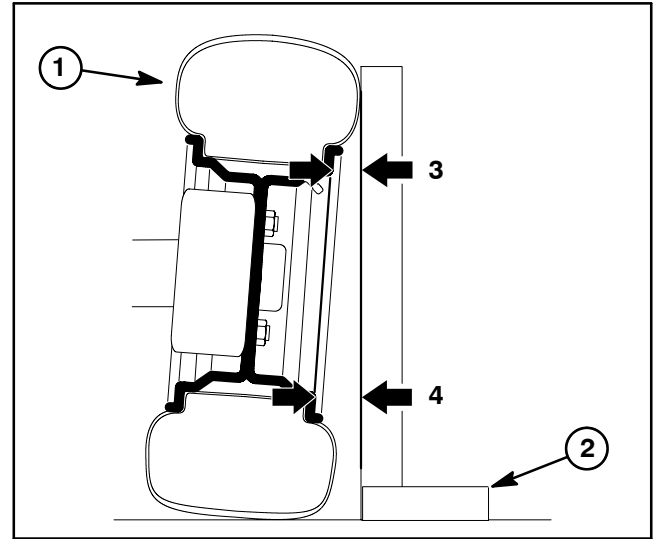
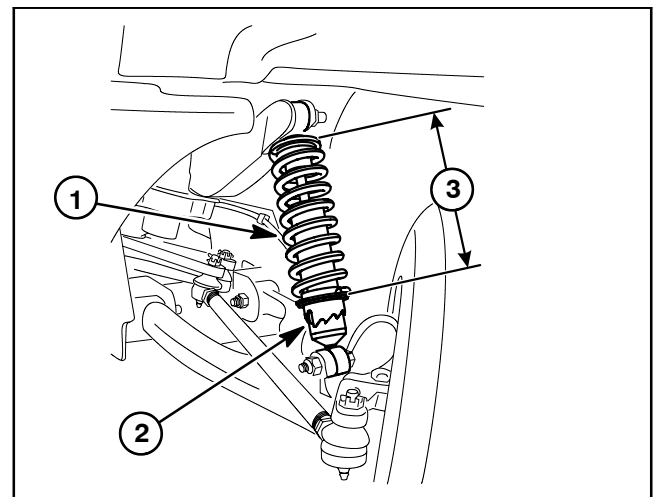

Figure 2.1
Figure 2.2
- A. Place a 90° square on the ground with the vertical edge touching the face of the tire (Fig. 2.1).
- B. From the same part of the rim, measure the distance from the top and bottom of the rim to the square. Record the two (2) measurements.
- B. Use spanner wrench (TOR6010: see Special Tools in this chapter) to rotate shock absorber collar which changes the length of the shock spring (Fig. 2.2). If the bottom camber measurement was too short, rotate the collar to reduce the length of the shock spring. If the bottom camber measurement was too long, rotate the collar to increase the length of the shock spring.